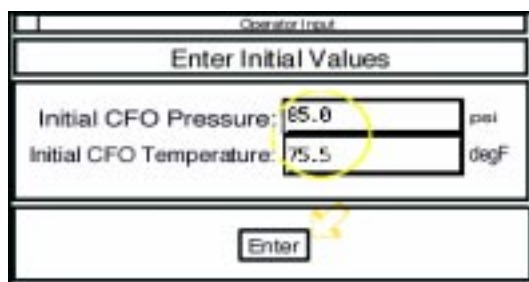

Figure 12
- 110 Click in the proper fields in the “Enter Initial Values” menu, use the keypad to enter the initial CFO pressure and initial CFO temperature noted in Step 109. See the circle in Figure 12.
Click on “Enter.” See the arrow in Figure 12.